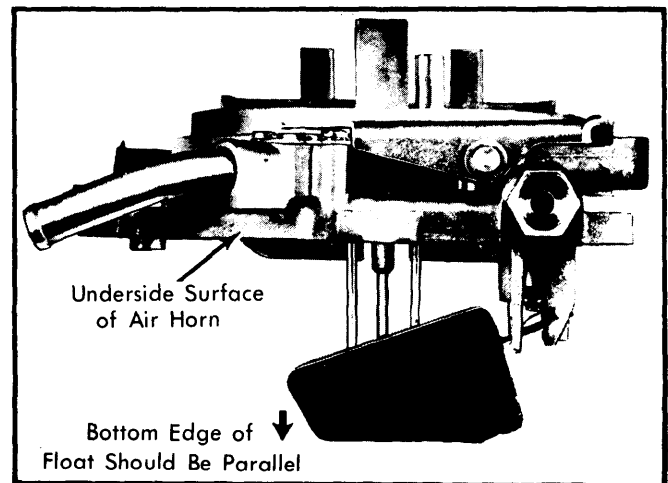

Fig. 2 Adjusting Float Drop
1) With air horn removed and in an upright position, let float hang by its own weight. See Fig. 2.